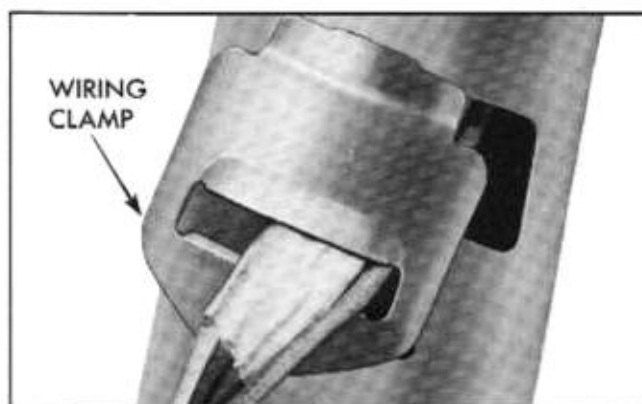

Fig. 7-5 Wiring Clamp Removed
2. Disconnect direction signal wiring harness, horn wire and Hydra-Matic indicator wire from connectors on steering column brace. Remove wiring clamp from steering column jacket and slip off of wires (Fig. 7-5).
17. Slip wiring clamp over wires and into place on steering column (Fig. 7-5) and attach with screw. Connect all wiring.